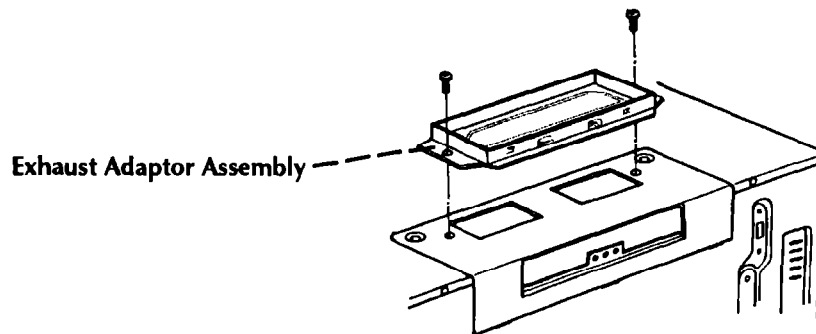

Figure 2
- A. The unit is shipped assembled for vertical exhaust. Remove the 2 tapping screws from the fan cover. Attach the Exhaust Adaptor to the fan cover on the top of the outercase cabinet with the 2 tapping screws provided as shown in **Figure 2**. Proceed to **Preparation of Wall and Top Cabinet** on page 10.